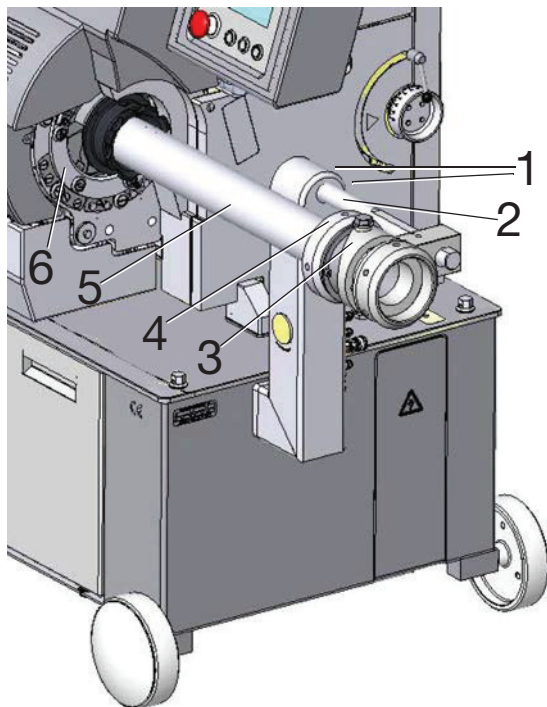
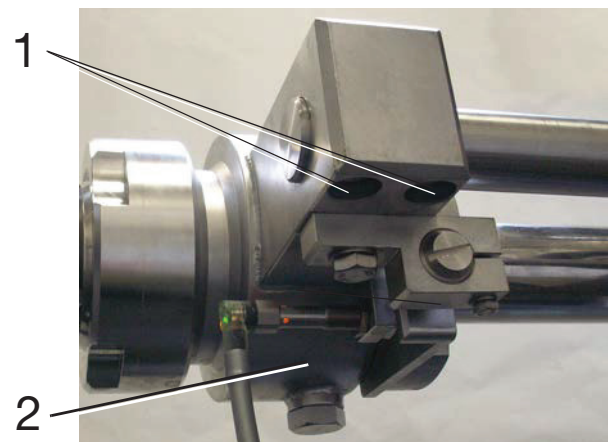

Fig. 3-2
Fig. 3-4 View from below
- Loosen the fixing screws on the bearing eye (1, Fig. 3-2).
- Guide the connecting rod (2) into the bearing eye and tighten with the fixing screws.
- Push the pivoting cross-piece (3) onto the connecting rod and tighten with the fixing screws (1, Fig. 3-4).
- Loosen the fixing screws (1, Fig. 3-4).
- Move the pivoting cross-piece (2) horizontally until you obtain the required distance between the end of the stuffing horn and the separator cover.
- Loosely tighten the fixing screws (1, Fig. 3-4).
- Turn the pivoting cross-piece (2) on the connecting rod to align the stuffing horn with the centre of the separator.
- Finish tightening the fixing screws (1).